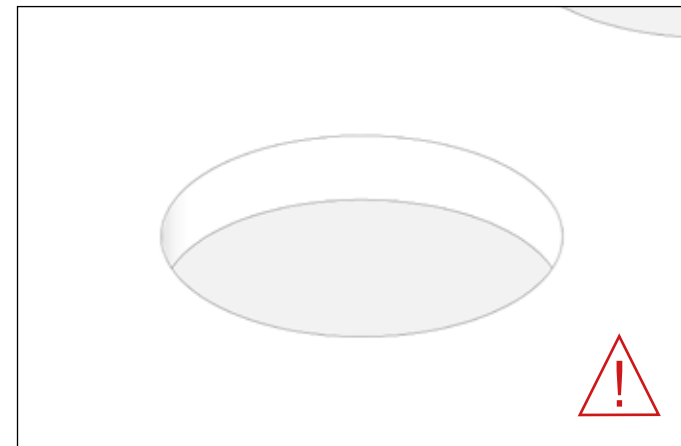
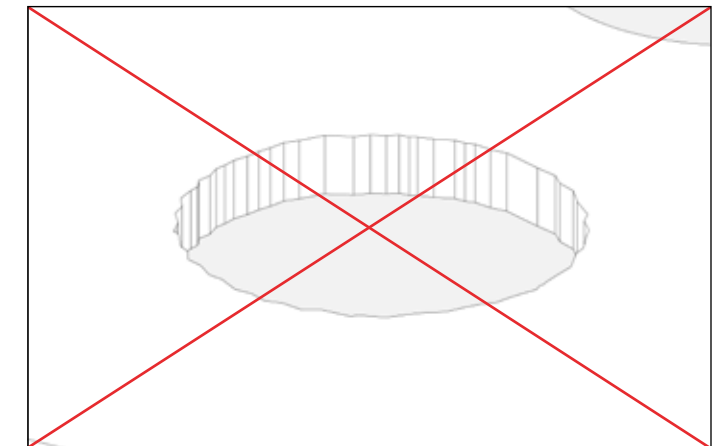

Fig. A1
Fig. A2
- The inside of the cutout(s) must be smooth and even and must be carefully sanded (fig. A1). Irregularities can cause cracks (fig. A2).